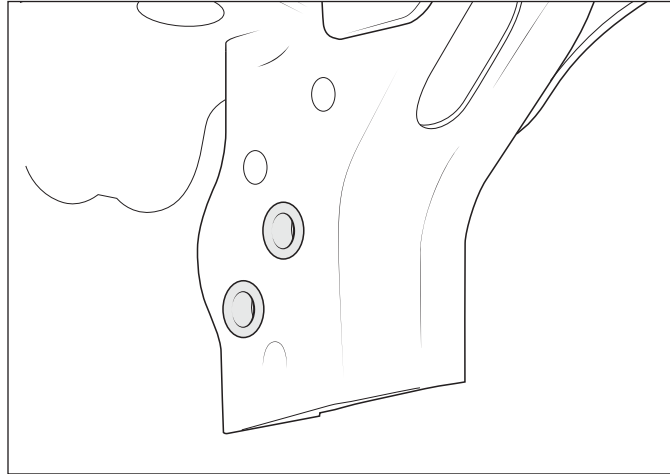

Figure 8
1. Install M10 riv-nuts using provided tool into the two hex shaped holes on the inboard side of each compatibility beam (fig. 8). To use rivnut tool, run provided bolt through the washer and coupler, then thread on rivnut until snug. Flanged end of rivnut should sit against the coupler. Place rivnut into desired hole, hold coupler stationary with a wrench, and tighten the bolt to 31 ft-lb. Remove the bolt and coupler to make sure the rivnut has full compressed. NOTE: Depending on factory bumper configuration, some vehicles may already have riv-nuts in these locations.
Install M10 riv-nuts using provided tool into the two hex shaped holes on the inboard side of each compatibility beam (see fig. 8). To use riv-nut tool, run provided bolt through the washer and coupler, then thread on riv-nut until snug. Flanged end of riv-nut should sit against the coupler. Place riv-nut into desired hole, hold coupler stationary with a wrench, and tighten the bolt to 31 ft-lb. Remove the bolt and coupler to make sure the riv-nut has fully compressed.